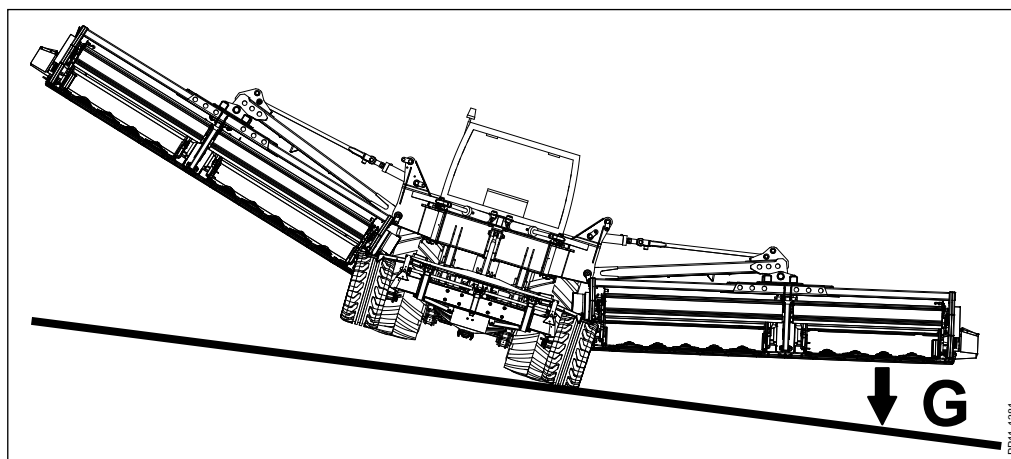

Fig. 3-14
**Fig. 3-14.** As the GXT has its own wheels, it is very stable in spite of the wide working width. When working on hilly ground you must, however, pay attention to the stability of the machine, especially when driving with lifted cutting units. The weight **G** of the cutting unit might tend to tip the machine and the tractor.